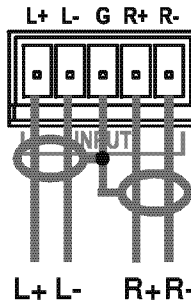

Figure 5: Connecting a Balanced VS-3232A Stereo Audio Input and Output
- A balanced stereo audio input and output, see Figure 5